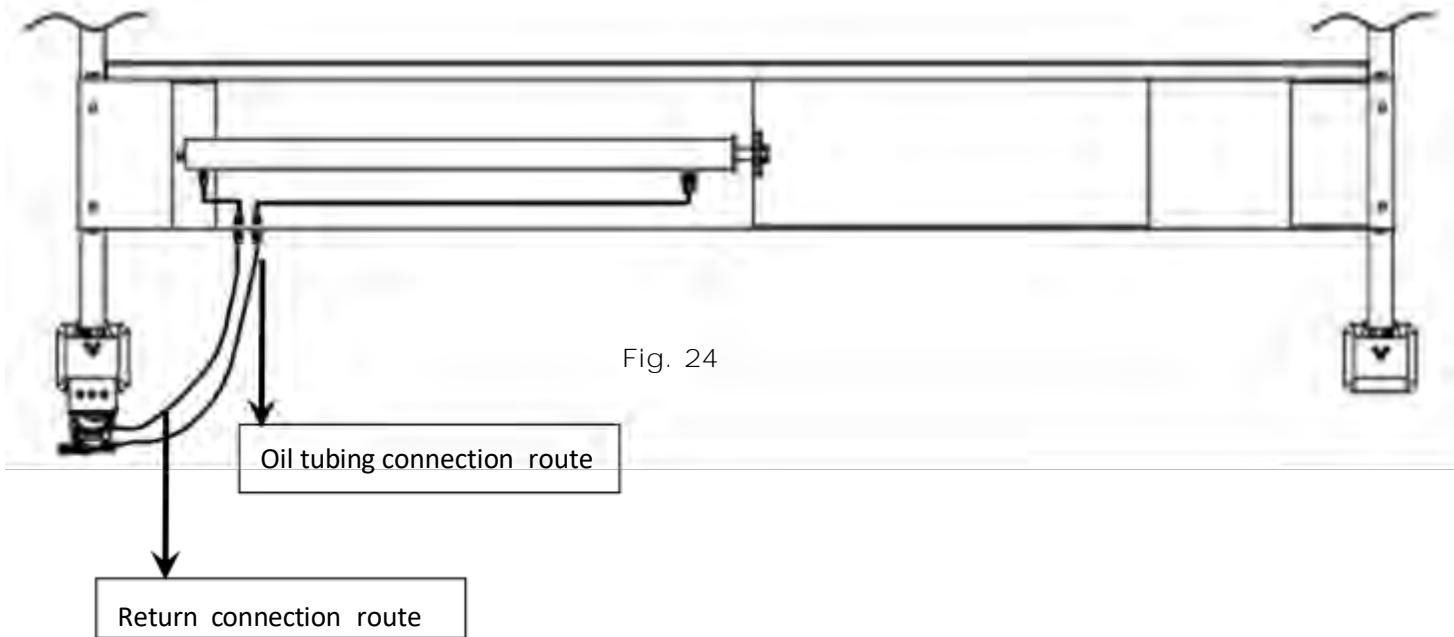

Fig. 24
K. Install Hydraulic System (See Fig. 24)